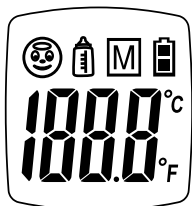

Figure 2.1
1. Press measurement button to turn on thermometer and display boot screen (Figure 2.1). After POST and two beeps, it will display value of last reading and be ready for measurement (Figure 2.2).